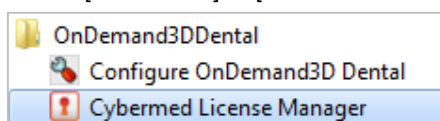

Fig. 4 Access [Cybermed License Manager]
2. Go to [Start menu] -> [OnDemand3DDental] -> [Cybermed License Manager] as shown in Fig 4.